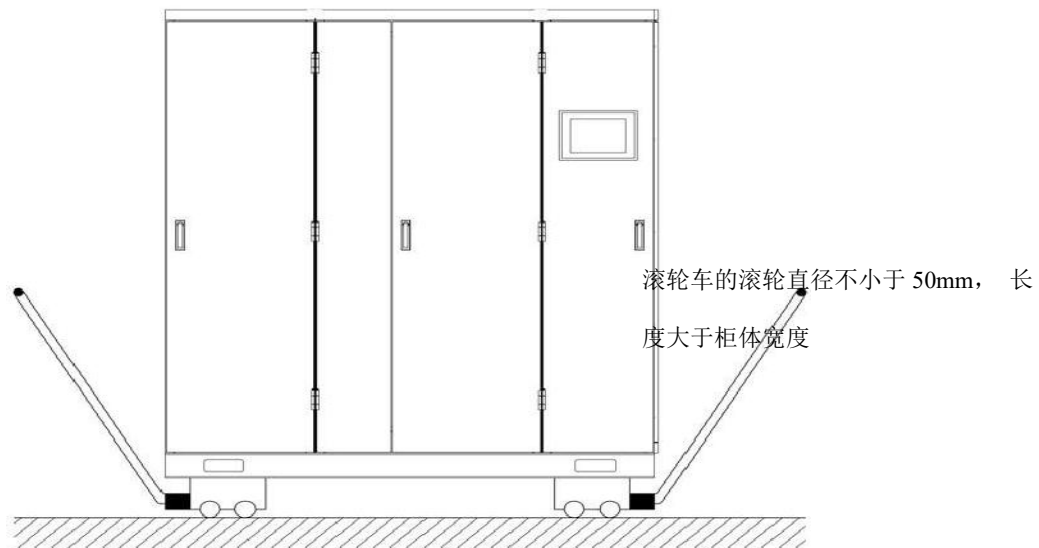

图 7.6 滚筒车搬运示意图 Figure 7.6 Schematic Diagram Of Cylinder Car Transport
3) 滚筒车：用滚筒车搬运时，必须将滚筒车放在底座槽钢的下面。如图 7.6 所示：
Cylinder car: The cylinder car must be placed below the channel steel, as shown in figure 7.6.